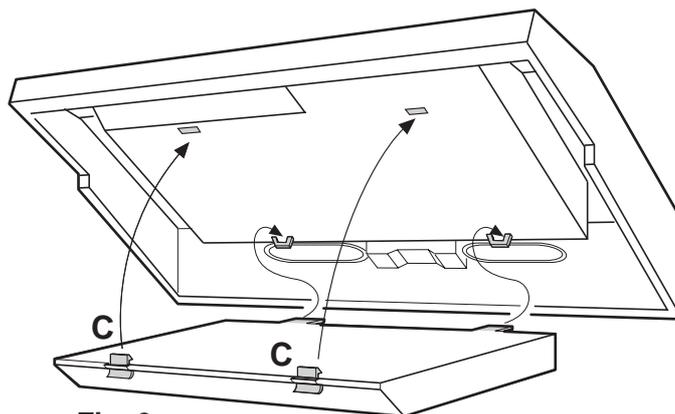

Fig. 9
- Remove the carbon filter: push the hooks C and pull the filter downwards (Fig. 9).
- Then fix frontwards the carbon filter using hooks C (Fig. 9)
To remove the carbon filter, push the hooks C and pull the filter downwards (Fig. 9).